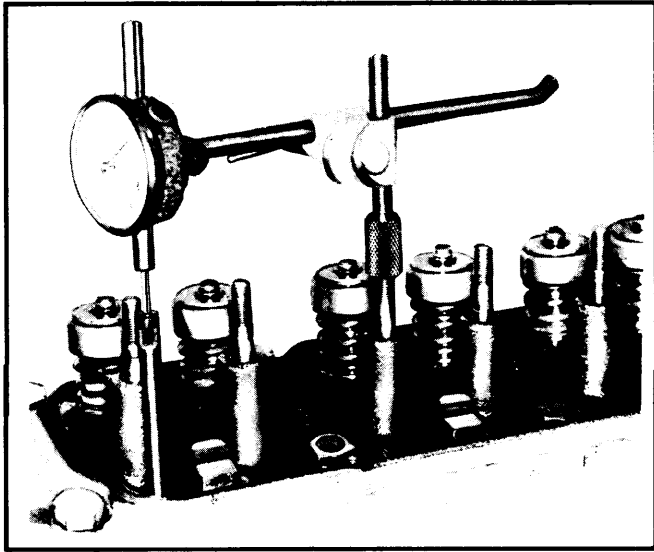

Fig. 11 Measuring Cam Lobe Lift.
1) Using suitable clamping or mounting fixture, attach dial indicator to rocker arm stud so indicator probe rests on top of push rod with indicator and probe in a vertical position over push rod. See Fig. 11.